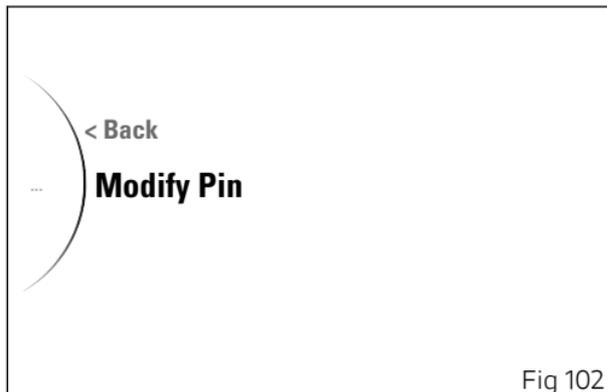

Fig 102
- Select the "Modify Pin" option (Fig 102) and press **ENTER** button.